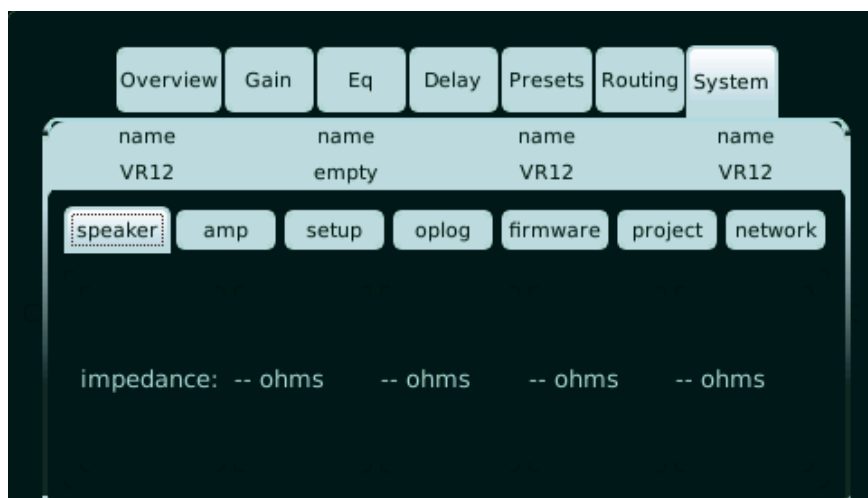

Fig 20. Speaker impedance read-out
**7.7.1 Speaker** - this section shows the measured speaker (system) impedance, per channel; This read-out offers real-time load-verification, with which state of speaker function can be determined. Note: for an accurate reading, ample signal needs to be available (“the higher the signal, the higher the accuracy”). The measurement range is between 1,5 Ohms and 20 Ohms, above/below - - is indicated. (see fig.20)